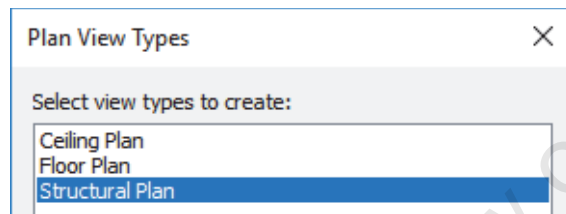

Figure 1–42
- Add three more levels above **TOS-Floor 1** with a distance of **15'-0"** between each level, and one level below **Ground Floor** with a distance of **15'-0"** between them. Rename them as shown in Figure 1–43. Click **Yes** to rename the corresponding views.